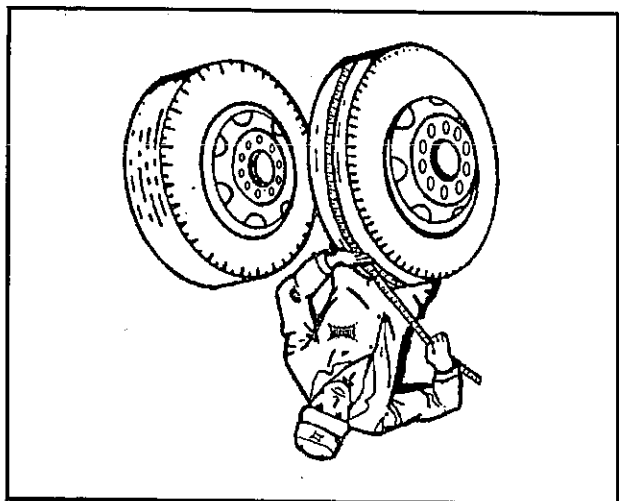

FIG. 6-6 CHECKING TIRE SIZE WITH MEASURING TAPE
a. Measure around each tire on the tread surface. A maximum difference of 3/4 inch in the measurements is allowed between the two mating tires of a dual (See FIG. 6-6).